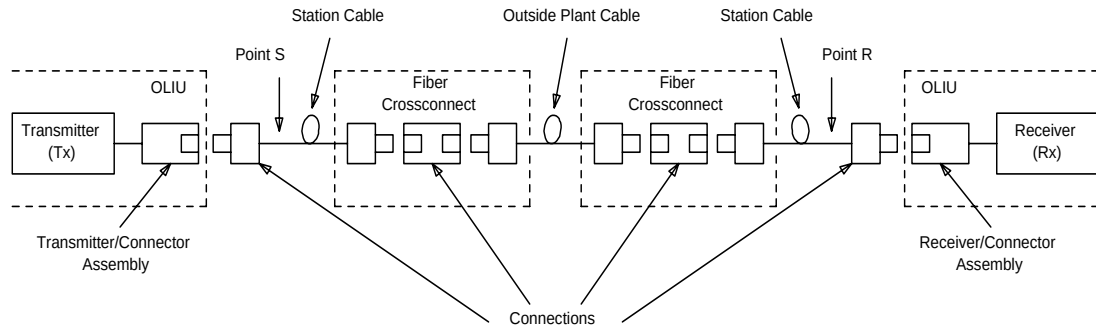

Figure 10-1. Optical System Interfaces (Points S and R)
The 22F/22F-U/22F2-U OLIU intermediate reach OC-3 interface supports span lengths up to 33 km, assuming 0.45 dB/km single-mode fiber and the span engineering rules outlined in Table 10-7. Transmit and receive powers are referenced to Points S and R as shown in Figure 10-1. Table 10-6, Table 10-7, and Table 10-8 provide detailed specifications and link budget information for the 22F OLIU.
The 22G-U/22G2-U OLIU long reach OC-3 interface supports span lengths up to 51 km, assuming 0.45 dB/km single-mode fiber and the span engineering rules outlined in Table 10-7. Transmit and receive powers are referenced to Points S and R as shown in Figure 10-1. Table 10-6, Table 10-7, and Table 10-8 provide detailed specifications and link budget information for the 22G-U/22G2-U OLIU.
The 22G3-U OLIU is a SONET compliant long reach OC-3 interface supporting span lengths up to 55 km, assuming 0.45 dB/km single-mode fiber and the span engineering rules outlined in Table 10-7. Transmit and receive powers are referenced to Points S and R as shown in Figure 10-1. Table 10-6, Table 10-7, and Table 10-8 provide detailed specifications and link budget information for the 22G3-U OLIU.
The 24G-U OLIU long reach OC-12 interface supports span lengths up to 51 km, assuming 0.45 dB/km single-mode fiber (including splices) and the span engineering rules outlined in Table 10-10. Transmit and receive powers are referenced to points S and R as shown in Figure 10-1. Table 10-9 and Table 10-10 provide detailed specifications and link budget information for the 24G-U OLIU. Note that the 24G-U OLIU is not specified to operate over multimode fiber.
The 26G2-U/27G-U/27G2-U OLIU long reach OC-1 interface supports span lengths up to 44 km, assuming 0.45 dB/km single-mode fiber and the span engineering rules outlined in Table 10-12. Transmit and receive powers are referenced to Points S and R as shown in Figure 10-1. Table 10-11, Table 10-12, and Table 10-13 provide detailed specifications and link budget information for the 26G2-U/27G-U/27G2-U OLIU.
1. All terminology is consistent with TR-253, Issue 2. All specifications for 21G/21G-U/21G2-U OLIU meets or exceeds long reach (LR) values described in TR-253, Iss. 2.
- † Transmit and receive powers are referenced to points S and R as shown in Figure 10-1.
1. All terminology is consistent with TR-253, Issue 2. All specifications for the 22F OLIU meet or exceeds intermediate reach (IR) values described in TR-253, Iss. 2.